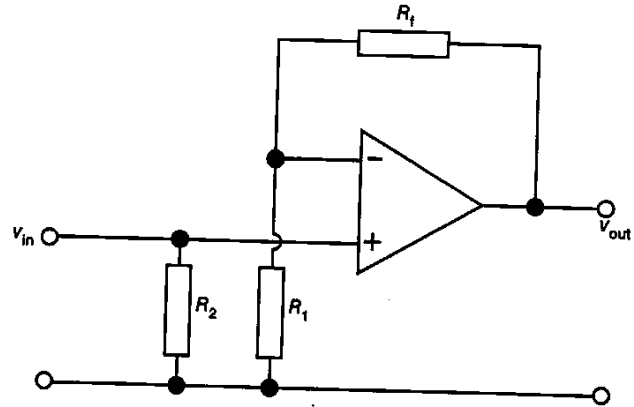

Figure 8.5 A non – inverting amplifier
2) Non-inverting, see Figure 8.5